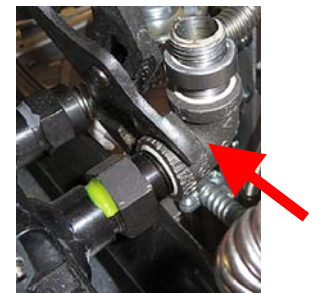

Figure 14
15. Remove the elbow and check valve nipple. It may require removing the adjacent flexline, to remove elbow (see Figure 14).